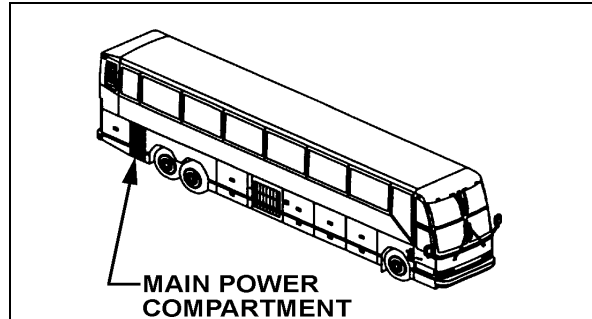

figure 1
1. Open the main power compartment door (figure 1).